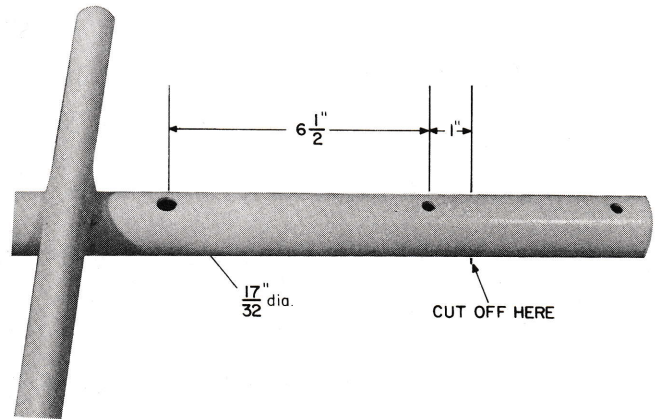

Figure 3
1. Cut off cart drawbar as shown in Figure 3.
2. Drill a  $1\frac{7}{32}$  inch diameter hole, as shown in Figure 3,  $6\frac{1}{2}$  inches from the  $1\frac{1}{32}$  hole.